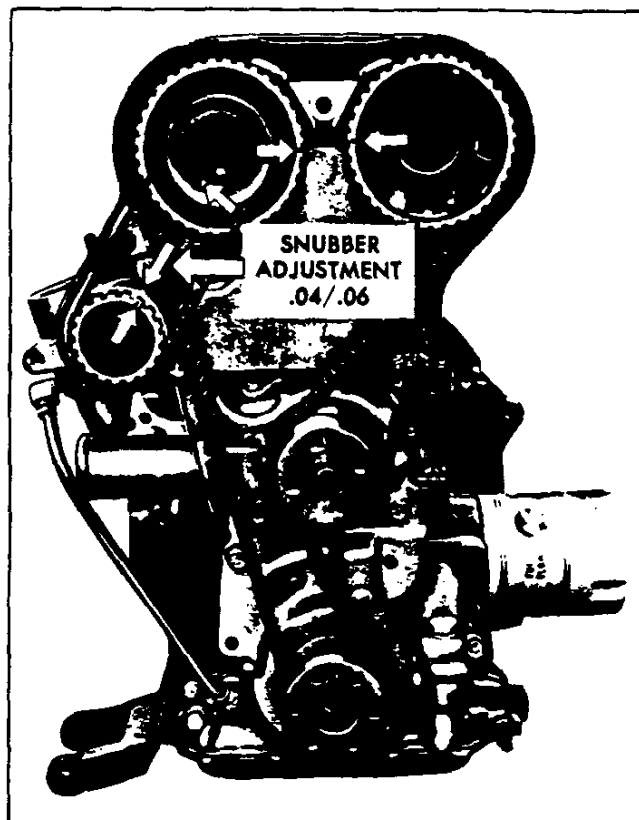

Fig. 10—Timing Alignment Marks
1. Position No. 1 piston at T.D.C. and align all timing marks on camshaft sprockets so that they are all in a straight line when an appropriate straight edge is used (fig. 10).
8. Check tolerances between snubbers and timing belt (fig. 10).
6. Check cam and crank sprockets to make sure that they have not been rotated out of position (fig. 10).
3. Make sure that distributor drive sprocket is in alignment with cam sprocket, position belt over cam sprocket; then install belt over distributor drive sprocket (fig.10).
3. Align cam sprockets so that timing marks are both towards center of engine and directly opposite each other (fig. 10).